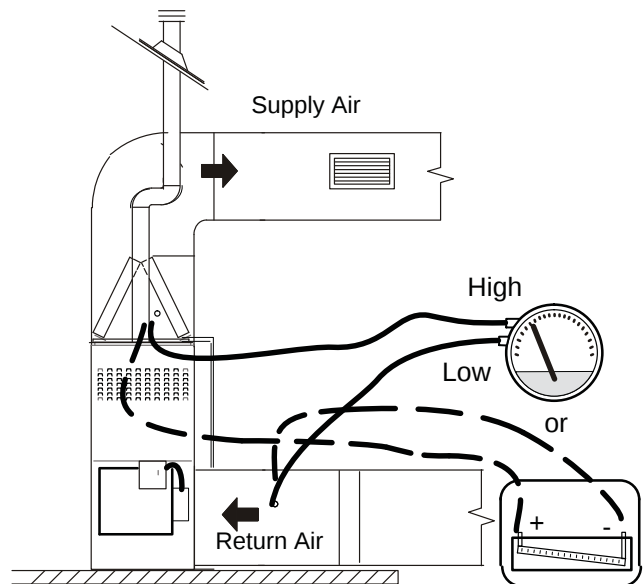

Figure 22. External Static Pressure
1. Tap locations shown in **Figure 22**.